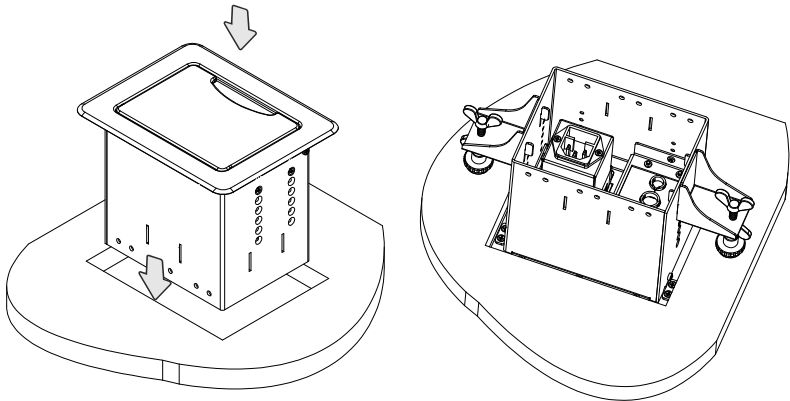

Figure 5: Inserting TBUS-3xl into the Prepared Opening
2. Carefully insert the unit into the prepared opening (see Figure 5).
5. Tighten both mounting butterfly screws upward until they reach the table surface (from underneath). Tighten firmly (see Figure 5).